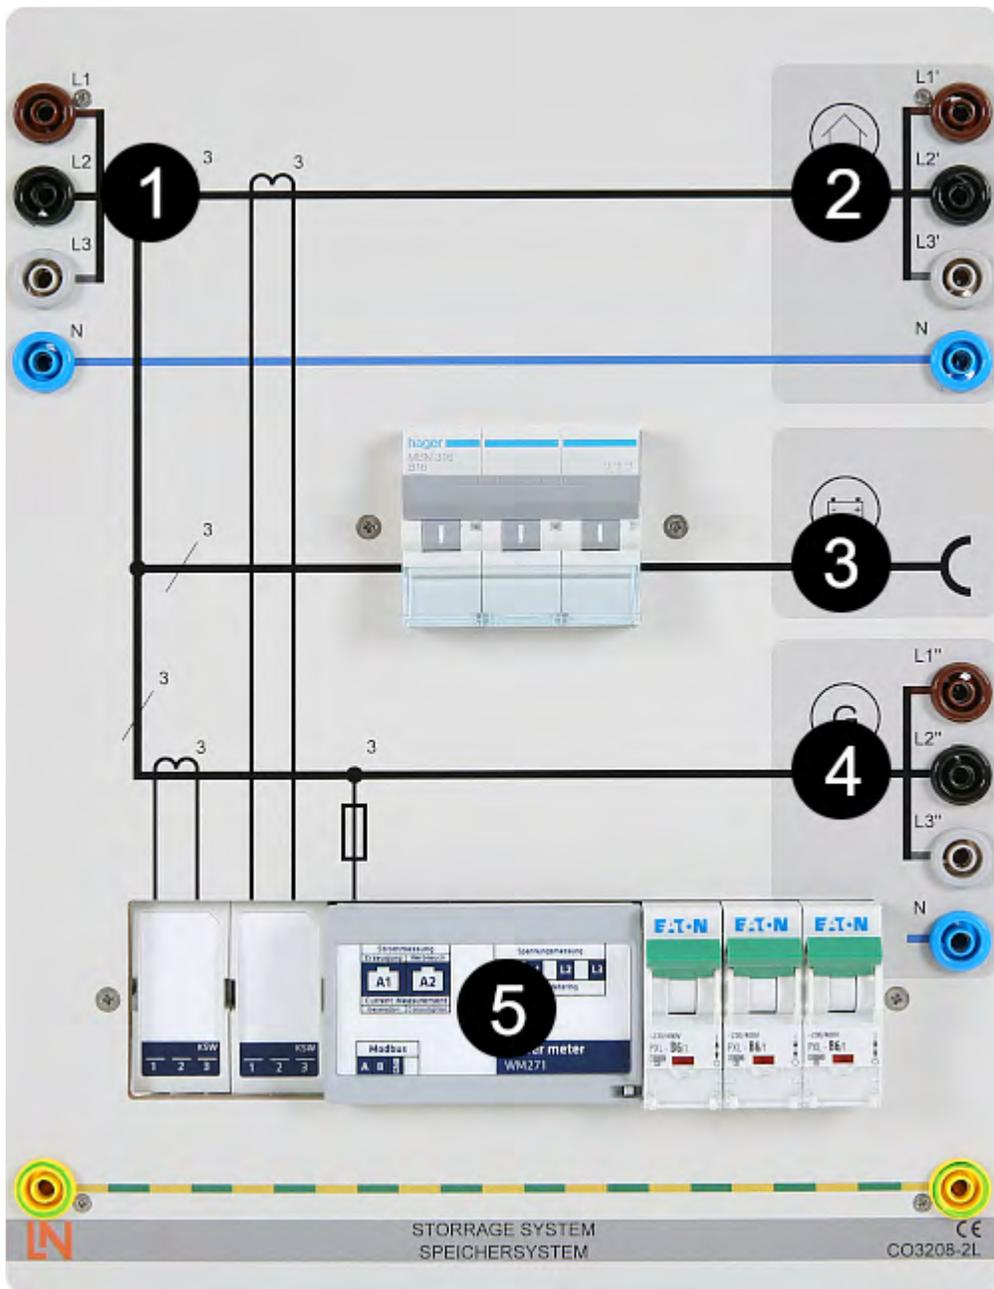

Figure 30:
In normal operation, the storage system automatically adjusts its mains connection (1) to zero. To do this, the consumers (2) and generators (4) must be connected according to the connection plate of the storage system (Figure 30):